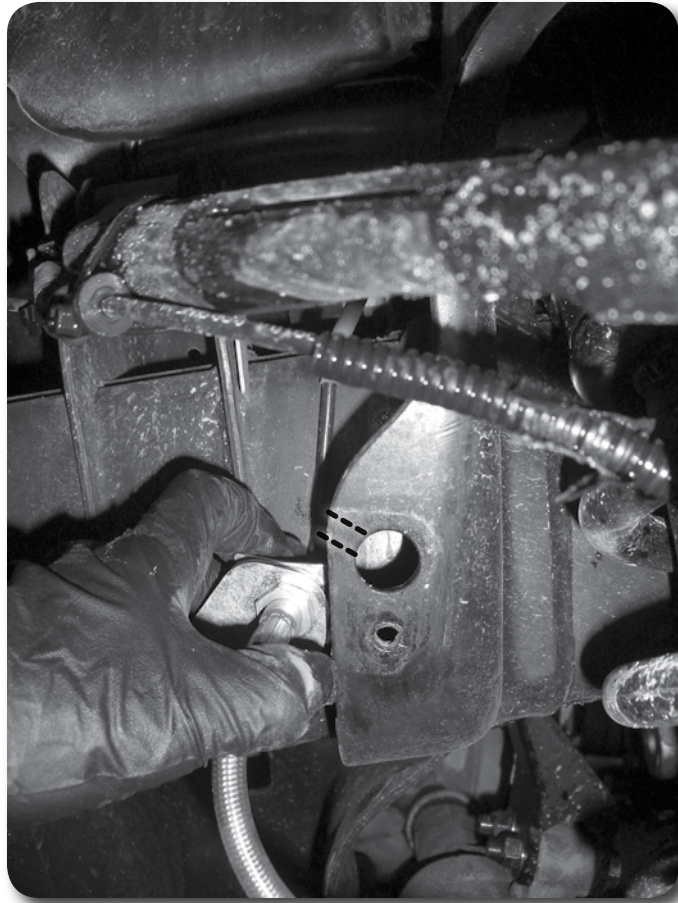

Figure 2
8. Disconnect the brakeline hardware from the strut tower and pull the brakeline through the mount. Cut a slot to allow the brakeline to be removed from the frame. If you do not wish to cut on the coil bucket, the line can be disconnected and reconnected after it is removed from the frame. If the line is disconnected the brakes must be bled after the installation is completed. **Figure 2**